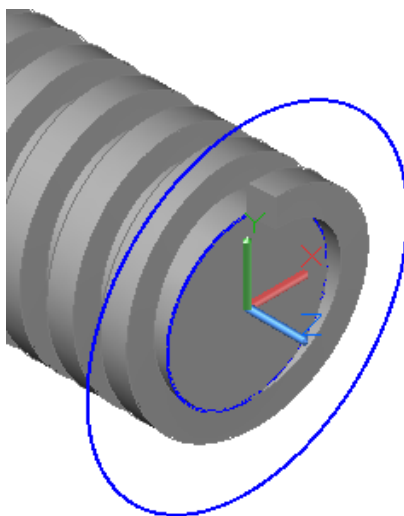

Figure Step 14
Step 14 Change the current UCS to Right. Draw a 2 Inch diameter circle with its center located at 0,0,0. (Figure Step 14)